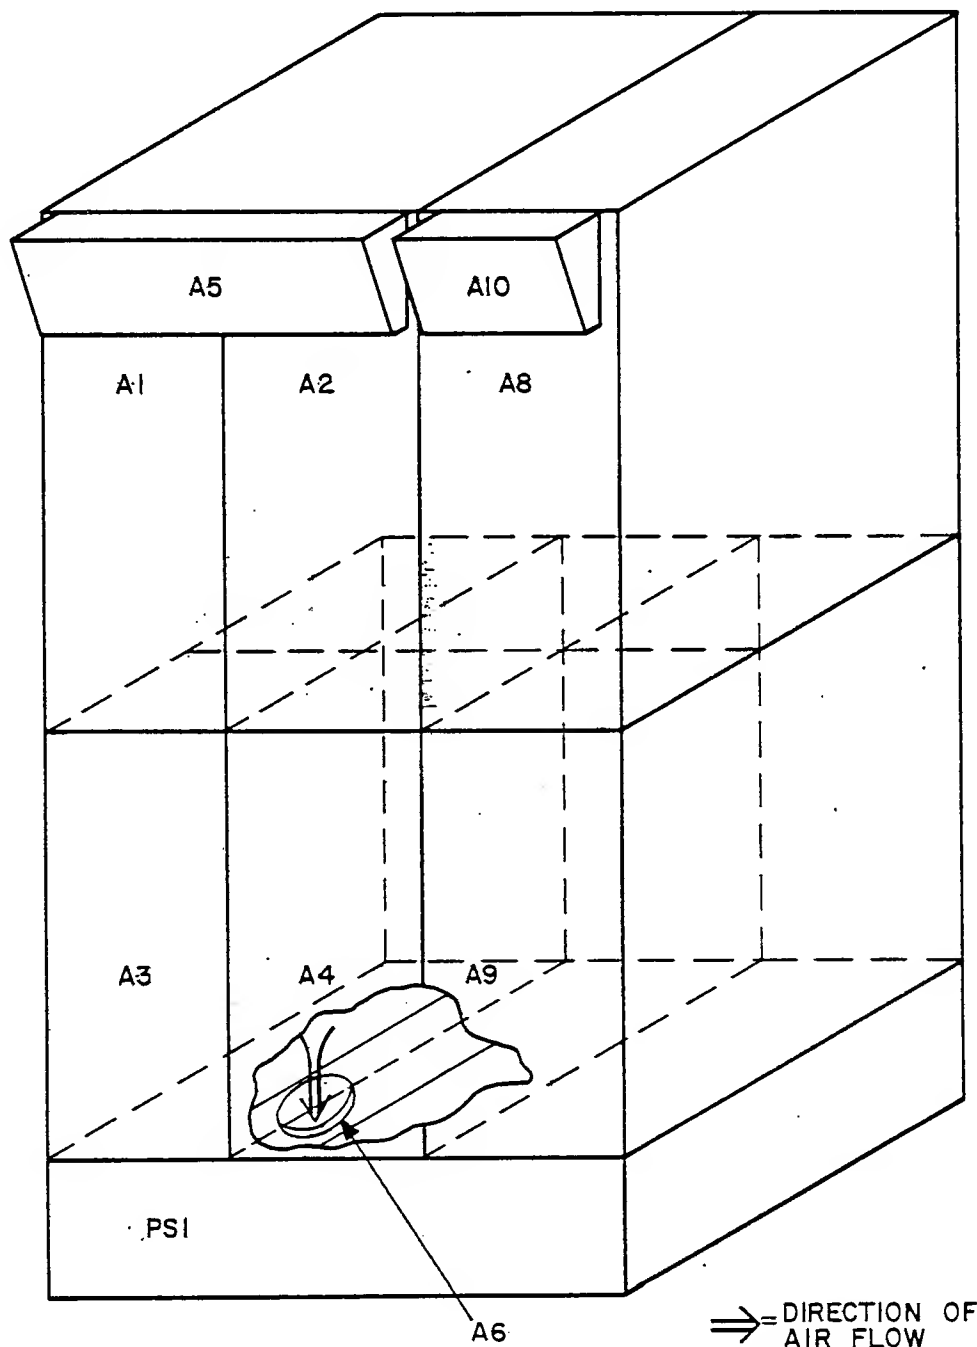

Figure 1. 1219B Blower Location and Air Flow Direction
- m. Turn on the power and observe that the A6 blower is rotating to cause air flow as shown in figure 1.